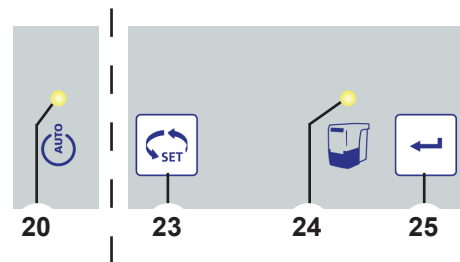

Fig. 8
- ⇒ Pull the dust drawer (4) forward and empty.
- ⇒ Press the Enter key (25). The counter for recording the time interval is reset.
- ◆ The dust drawer display (24) switches off.
**If the dust drawer is not emptied, the dust drawer display (24, Fig. 8) remains lit up. After switching the unit on and off, an acoustic signal sounds three times again to indicate that the dust drawer must be emptied.**